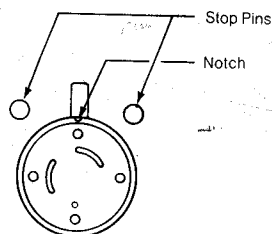

Fig. 5A
a) Be sure that the rotor seal is correctly oriented as shown in Figure 5A with rotor seal slots facing the stator. The needle port tube will be in line with the Teflon sleeve in the rotor seal when the rotor seal is in the correct position.